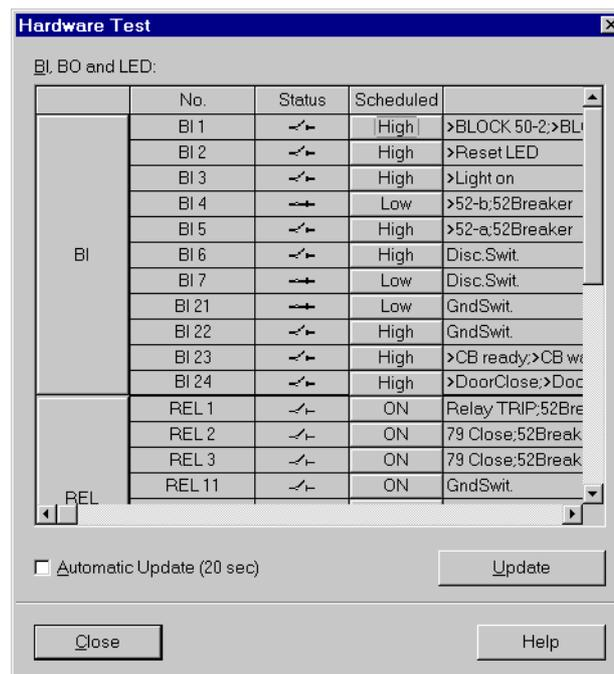

Figure 8-18 Dialogue box for hardware test — example
- Double-click in the list view on **Hardware Test**. The dialogue box of the same name opens (see Figure 8-18).
Links via the communication converter are tested by means of local loop-back (Figure 8-18, left).